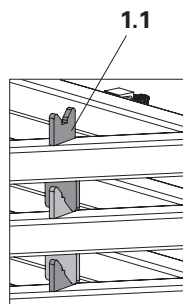

Fig. A2.02a
- Use integrated stacking aid (1.1) on the brace frame units. (Fig. A2.02a)